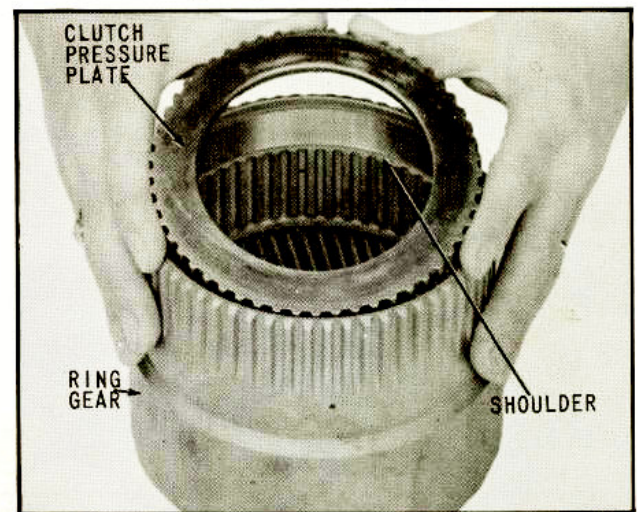

Fig. 29 Installing Clutch Pressure Plate
23. While holding ring gear, tap with soft blunt tool on exposed face of forward clutch cylinder inside of ring gear. Forward clutch cylinder will move forward to disassemble out of front of ring gear. After removing the clutch spring and the clutch spring snap ring, all parts of the forward clutch can be disassembled as shown in (Figs. 29, 30, 31, 32 & 33).
18. Place the ring gear on a clean surface with the external teeth up, as shown in (Fig. 29).
19. Remove all dirt and solid particles from the shoulder inside the gear formed by the top of the internal helical gear, (Fig. 29).
20. With the smoothly ground face in the upward position, install the clutch pressure plate (rear) in the ring gear, as shown in (Fig. 29). Assembly is complete when the clutch pressure plate is firmly and squarely seated on the shoulder at the bottom of the internal splines.